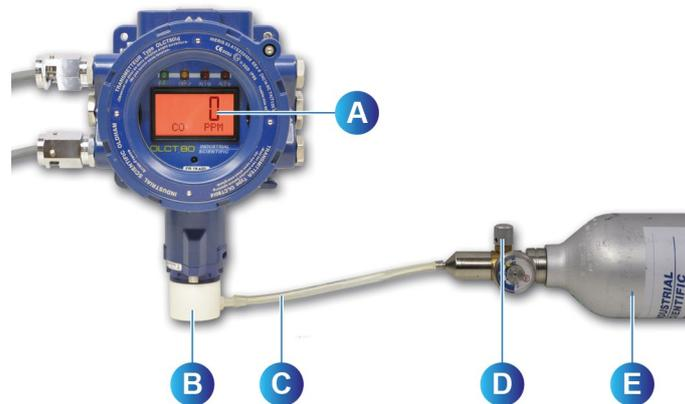

Figure 59: zero test.
2. Place the calibration hood over the detector head (Figure 59, B).
3. Connect the calibration hood to the bottle of clear air (Figure 59, E) using a piece of flexible tubing (Figure 59, C).
4. Open the valve on the bottle of clear air (flow rate of 30-60 l/h or 60-120 l/h for OLCT IR versions) (Figure 59, D).
5. After the reading has stabilized (after about 2 minutes) read the detector's display (Figure 59, A).
1. Once the zero test has been performed, connect the calibration hood to the calibration gas bottle (Figure 59, E) using a piece of flexible tubing (Figure 59, C).
2. Open the valve (Figure 59, D) on the calibration gas bottle (flow rate of 30-60 l/h or 60-120 l/h for OLCT IR versions).
5. Close the bottle's valve (Figure 59, D) and remove the calibration hood (Figure 59, B). Wait until the measurement reading returns to zero and leave the Test menu by pressing ESC on the IR20 remote control. This completes the zero and gas sensitivity test procedure. The detector may now be used.